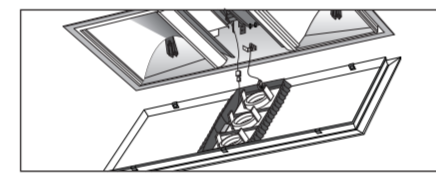

Fig. 22
4. Bring fascia assembly up to the Tastic body. (Fig. 22) Connect the earthing wire to the fascia and connect the IR sensor lead (Smart Switch models).